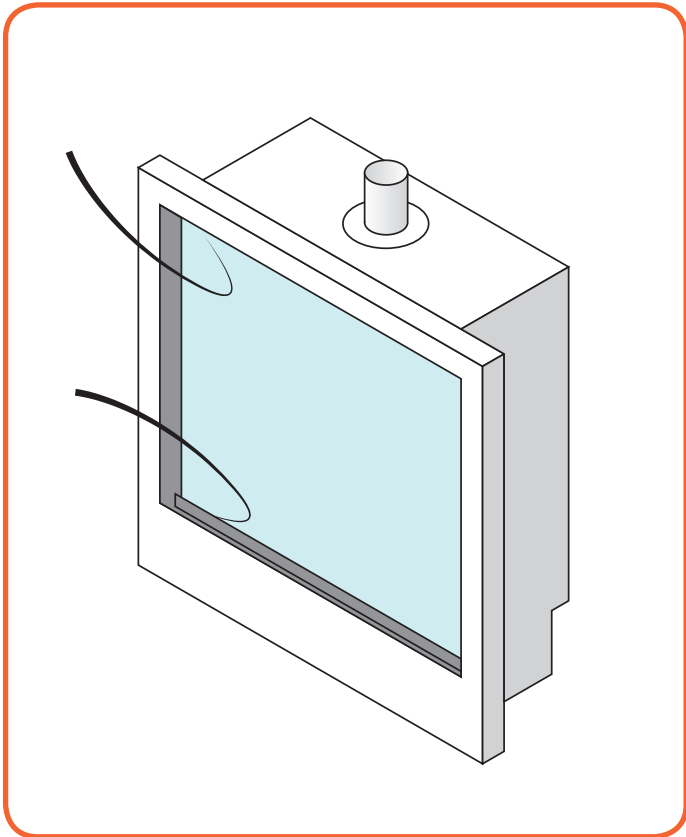

Figure 10.4 - Remove window ropes
- Remove the ropes holding the window in place. (See **Figure 10.4**)